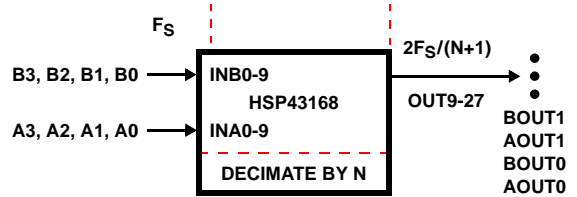

FIGURE 23. MULTIPLEXED DECIMATION BLOCK DIAGRAM
The purpose of this example is to give an overview of one of the more complex applications of the HSP43168. The input is two data streams (A) and (B) samples. Figure 23 shows the upper level block diagram of the system being implemented. The decimation rate was set to N. N-1 is loaded into the decimation factor in Control Word 000H.